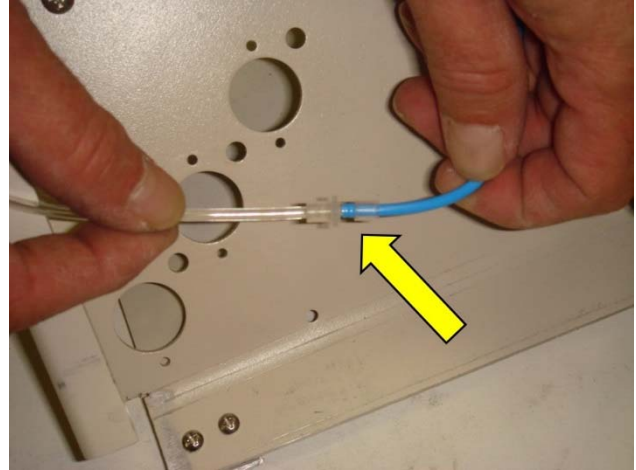

Fig. 10
12. Locate both ends of the waterline tubing. One will be inside the new ultrasonic cord (clear tubing), and the other will be coming from the control block (blue tubing). Using supplied sleeve, place sleeve over the clear waterline tubing. Using the supplied straight-through barb/connector, insert barb into clear waterline tubing, then push the sleeve over the barb after the tubing is seated. (Fig. 10)